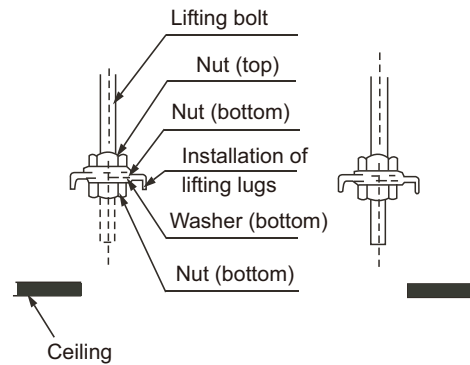
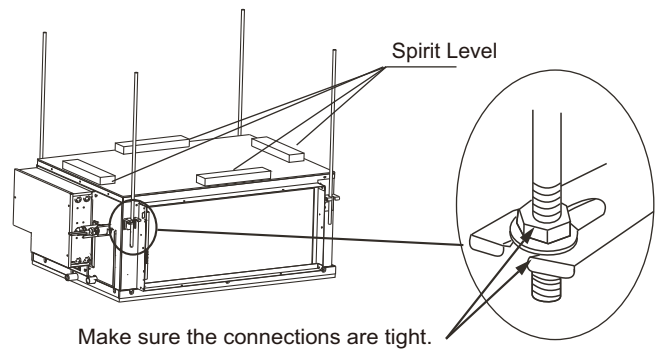

Figure 3.5
Figure 3.6
- (1) When mounting the lifting lugs of the indoor unit on the lifting bolts, slot the nut washers of the lifting bolts in the oblong holes of the lifting lugs. The upper and lower nuts and the washers are shown in Figure 3.5.
- (2) Adjust the height of the indoor unit.
- (3) Use a spirit level to verify that the unit body is level (making the unit body slope downwards towards the drainage side), as shown in Figure 3.6.